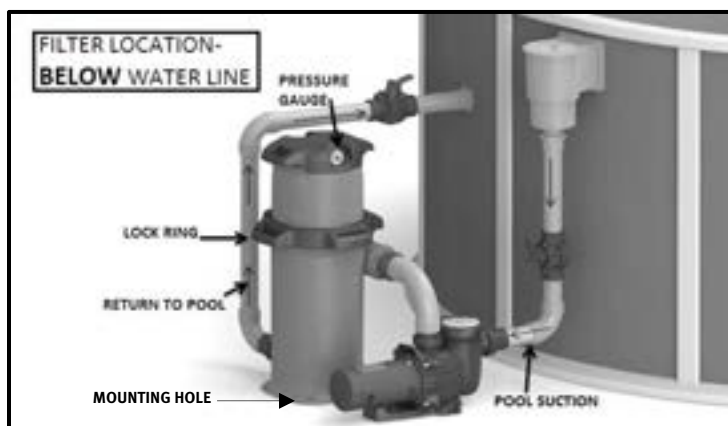

Fig. 1
2. Refer to fig.1 and 2 for basic suggested piping and valve locations. While systems vary, the main consideration is to provide the desired control of water flow from the pool to the pump and filter, and back to the pool. When the filter is located below water level, provide valves to prevent back flow of water to the filter during cleaning and routine servicing.
Secure filter to level concrete slab or other rigid surface to meet all local and national codes. Use fasteners appropriate for the material of the surface being fastened to. Use 2 of the 4 available mounting holes (see fig.1) on opposite corners of the filter base to ensure the filter is secure and level.